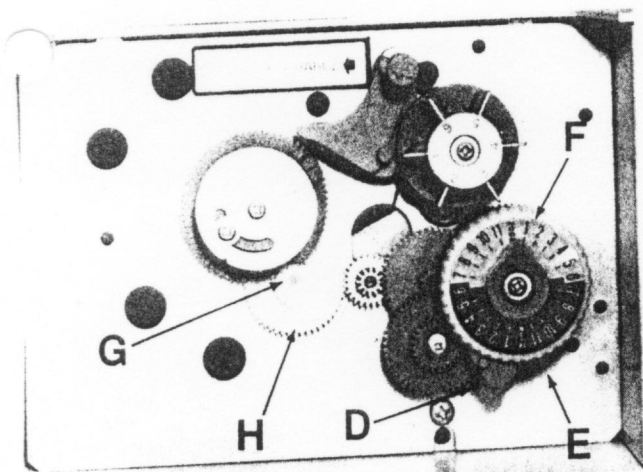

Fig. 18
The timer is factory-set to recharge at 2:00 a.m. (plus or minus 20 minutes), a time when water usage is at a minimum for most families. If water is used during recharge, hard water will be automatically bypassed to service. If it would be more convenient to have the water conditioner recharge at a different time of day the setting may be changed as follows, referring to Fig. 18.
Upon completing the installation, the timer must be set to the correct time of day. Time of day must also be reset after any kind of power interruption, such as that caused by an electrical storm. See Fig. 18.
The timer assembly is in the service position when the toothless notch in the cam gear (G) is over the teeth on the idler gear (H). the timer will return to this position after each recharge (Fig. 18).